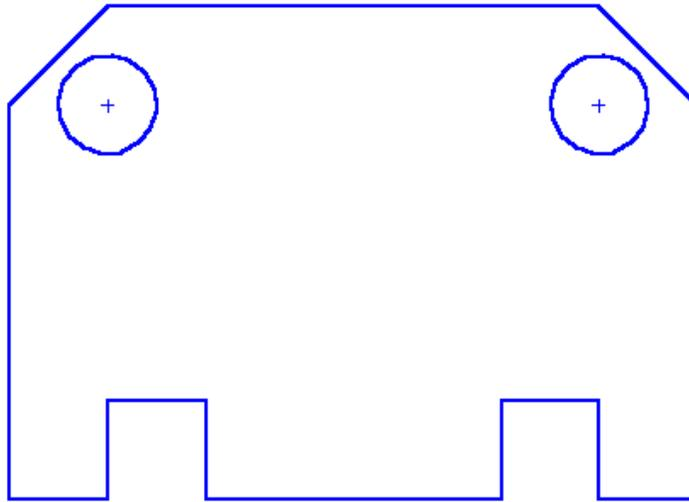

Figure 1-49 Sketch after drawing the two inner circles
7. Similarly, draw the circle on the left using the inferencing lines generating from the endpoints of the left inclined line. The sketch after drawing the two circles inside the outer loop is shown in Figure 1-49. Exit the **Circle** tool.